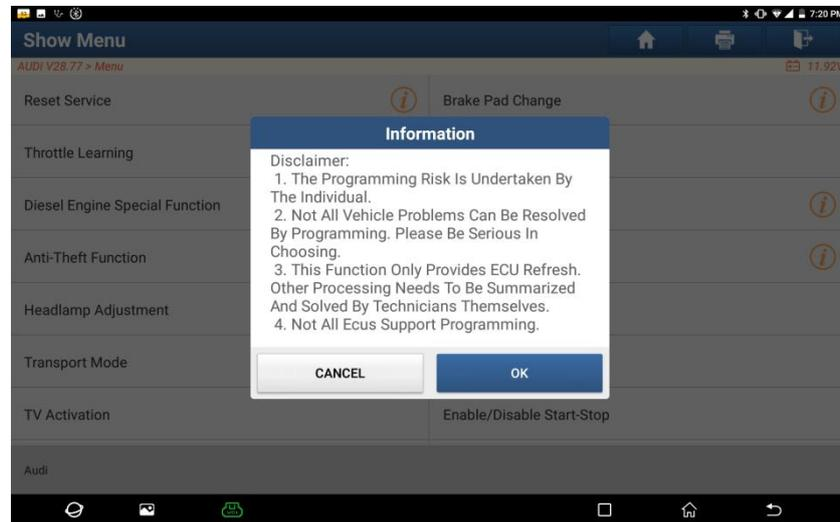

Figure 2
3.2.1.1 Enter [Special Functions], and click [Anti-Theft Function], as shown in Figure 2.